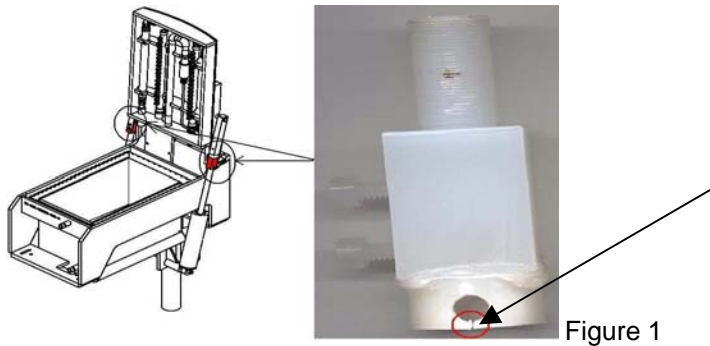

Figure 1
**Issue:** The fixed end of some LuCID2 lid piston rod adjusters may be manufactured to incorrect tolerances. The hole in which the pin mounts may be too close to the end of the adjuster body. This creates a weak area prone to fatigue failures. Note the crack location in Figure 1.